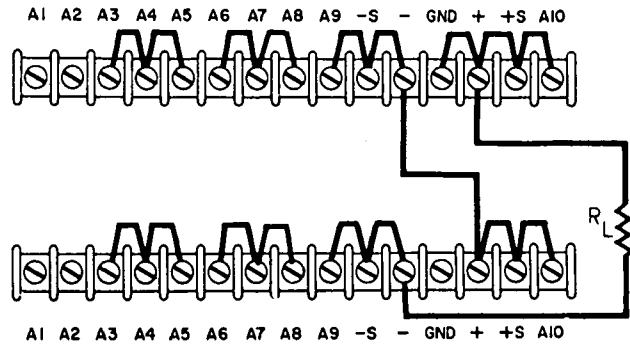

Figure 3-8. Normal Series
**3-34 Normal Series Connections (Figure 3-8).**